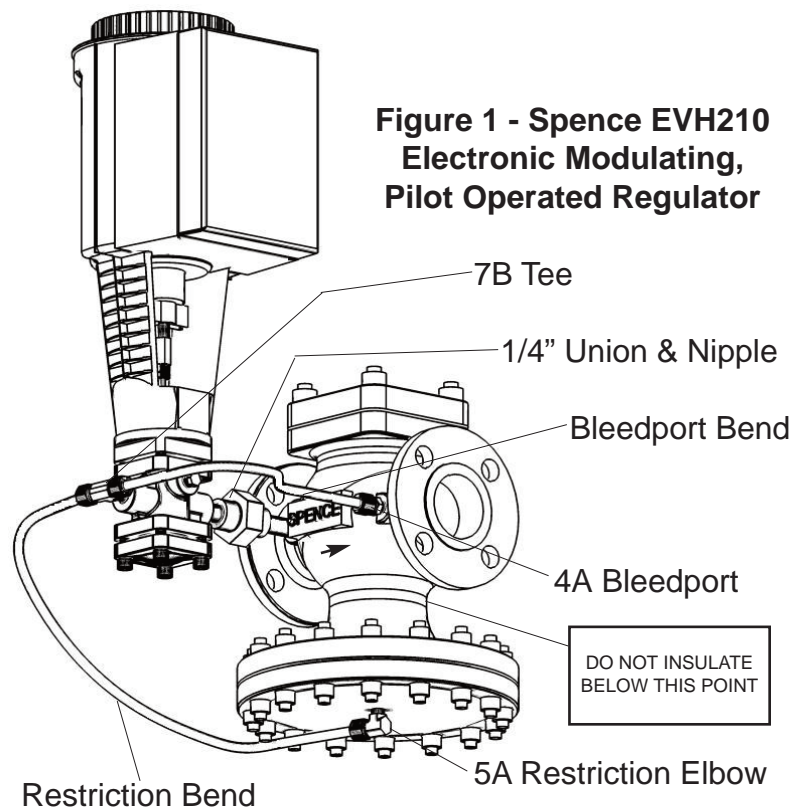

Figure 1 - Spence EVH210 Electronic Modulating, Pilot Operated Regulator
4. Insulation may be applied to the upper portion (globe and flanges) of the main valve. Do not insulate the diaphragm chamber, condensation chamber (if used) or any part of the pilot. See Figure 1.
1. Mount the VH210 pilot with the arrow on the body pointing in the direction of flow, on either side of the main valve, by means of the 1/4" nipple and union provided. Make this connection to the 1/4" pipe tap at the inlet of the main valve as shown in Figure 1. Remote mounting of the VH210 pilot is recommended when the ambient temperature at the pilot exceeds 130°F. Caution should be taken to protect the electrical portion of the VH210 pilot from any dripping condensate.
5. Connect the tubing bends as illustrated in Figure 1.
- b. Orifice in 5A restriction elbow (see Figure 1) may be plugged